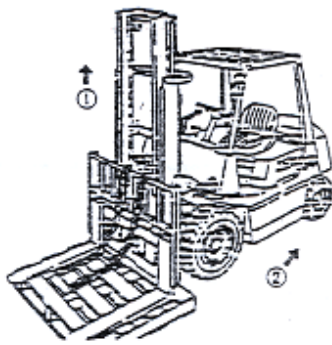

Figure 2-73
- (1) Place a tray on the forklift and park it on level ground.
- (2) Lower the fork and tray down to the ground.
- (3) Remove the upper end joint of the chain and remove the chain from the chain wheel.
- (4) Lift the inner main frame (① in Figure 2-73)
- (5) Reverse the forklift after confirming that the fork frame has been separated from the outer main frame (② in Figure 2-73).
- (6) Replace the main roller